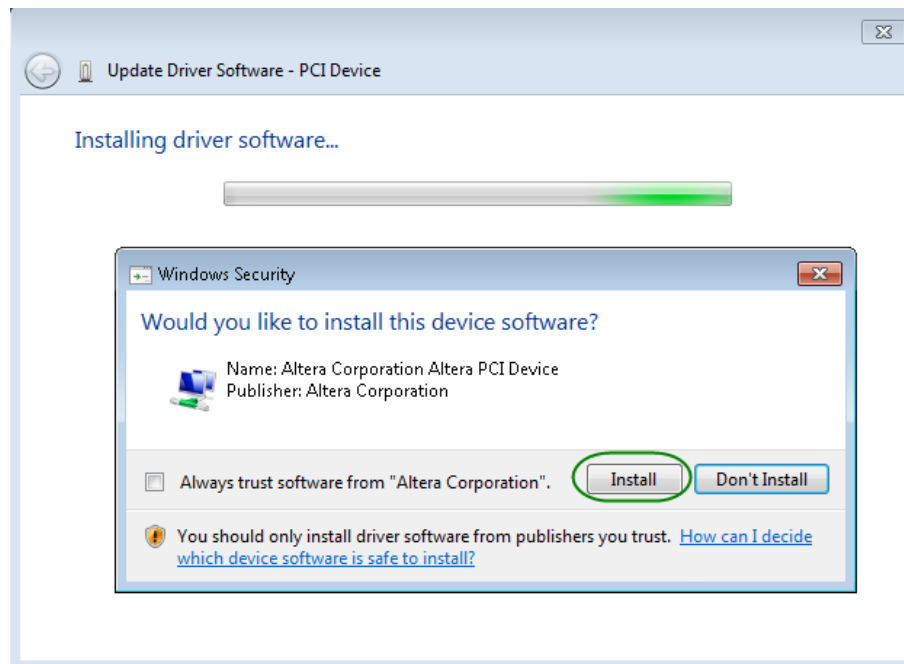

Figure 6 Click Install in the dialog of Windows Security
10. When the **Windows Security** dialog appears, as shown **Figure 6** click the **Install** button.